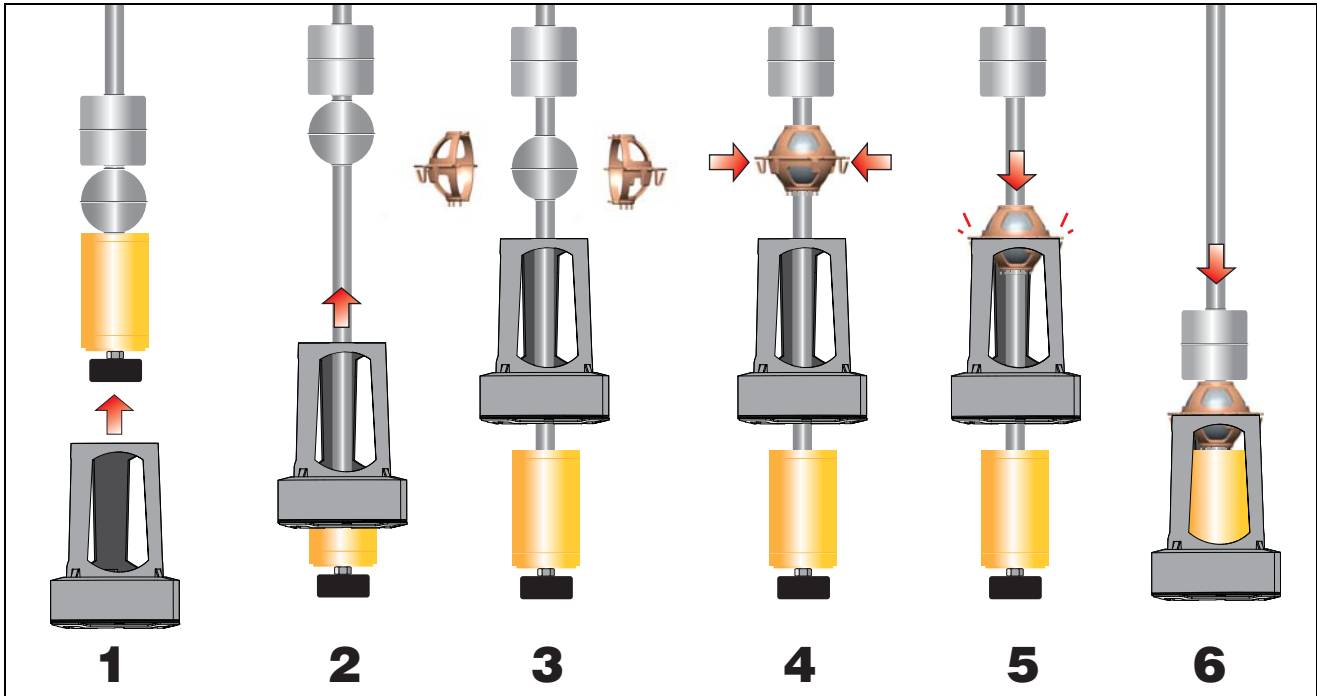

Figure 1. Installing The Low Level Float Assembly
2. Slide the LLWF over the Mag-FLEX probe's weight (views 1 and 2 in Figure 1).
- Place half of the adapter around the stainless steel ball float. Take the remaining half of the adapter and place it around the ball float making sure to align the pins and holes on the two adapter halves. Once aligned, squeeze the two halves together securing the ball float inside the adapter (views 3 and 4 in Figure 1).
- Slide the SS ball assembly down into the top of the LLWF until the six latches around the Adapter snap into the top of the LLWF housing (view 5 in Figure 1).
- Gently lower the LLWF assembly down against the weight (view 6 in Figure 1). Notice the six standoff pins beneath the adapter that prevent the float from contacting the weight.